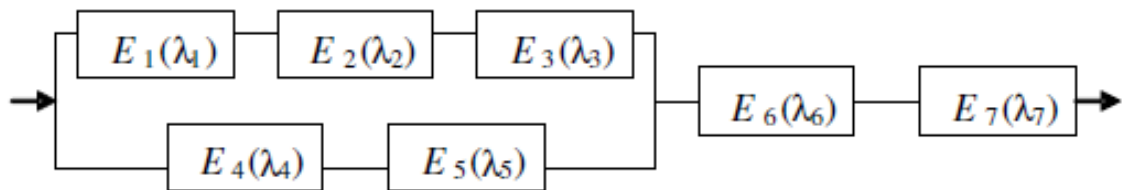

Figure 1A: RBD
- 1A. Find the reliability and MTTF of a system consisting of seven subsystems represented by the RDB shown in Figure 1A. Assume that each subsystem is characterized by a different failure rate constant  $\lambda$ .